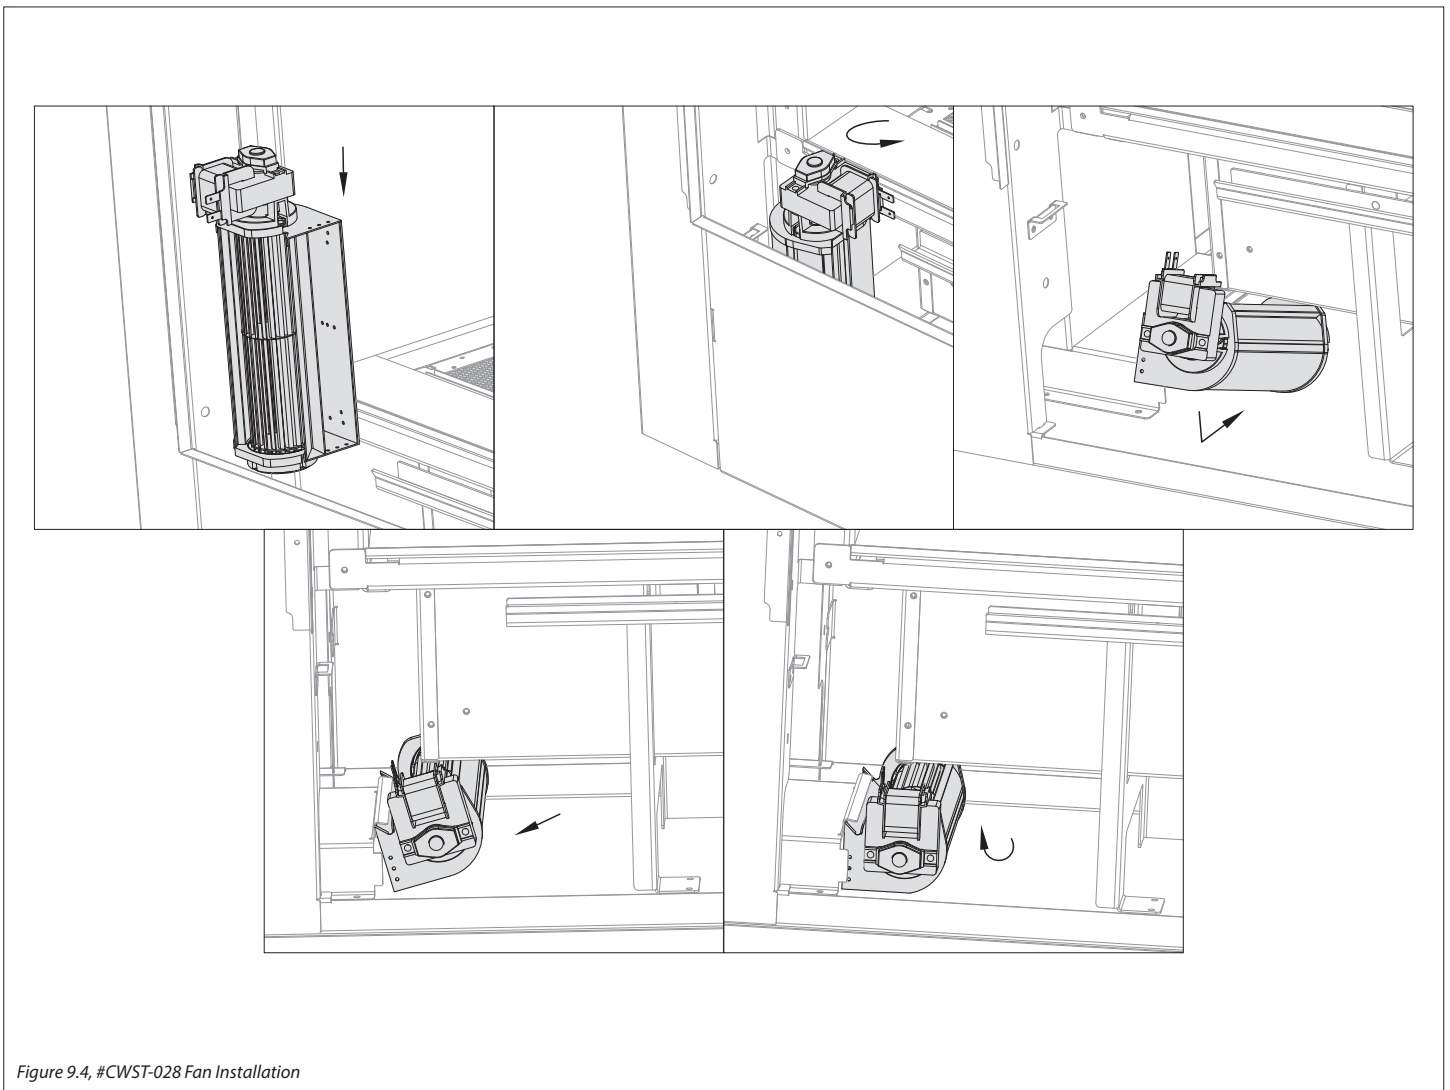

Figure 9.4, #CWST-028 Fan Installation
4. With the terminal end of the fan facing you and the fan terminals on the left, insert fan into chamber. See Figure 9.4.
7. Place the upper edge of the fan discharge under the edge of fireplace air channel opening. Rotate the fan up towards the edge to secure fan into place. See Figure 9.4. **DO NOT LET THE FAN REST ON ANY ELECTRICAL CORDS.**